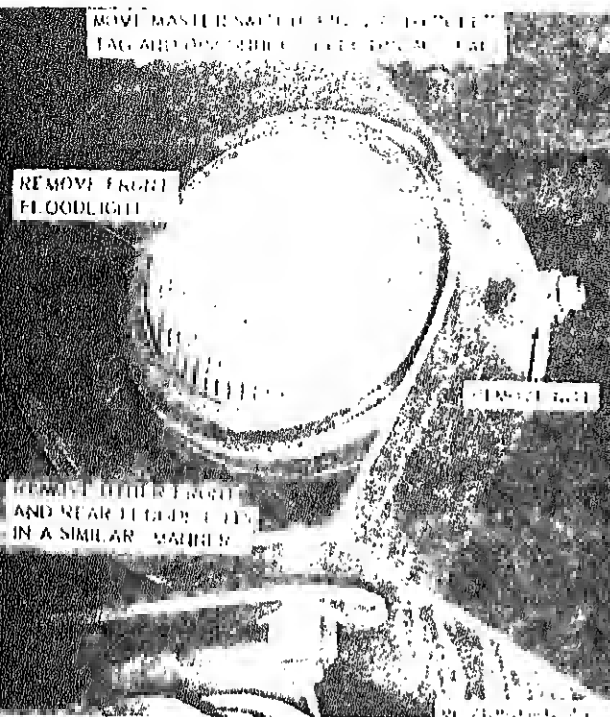

Figure 4-9. Floodlight assembly, removal and installation.
- (2) Inspect for cracks, breaks and other damage. Replace defective floodlight assembly and parts as necessary.
c. *Installation.* Refer to figure 4-9 and install floodlight assembly.